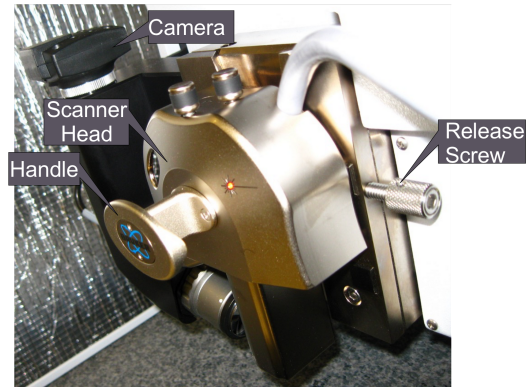

Figure 3. Dim Icon Scanning Head mounted on dovetail rail.
9) Unlock the scanner head by carefully gripping the head by the handle (Figure 3) and loosening the screw on the right side of the head, Figure 3 & 4. One or two turns should be enough. There is no need to turn the screw all the way out. Lift the head out of the dovetail rail. The scanner head should always be mounted on the dovetail rail unless you are loading the probe holder. If it is not, contact a GLA.
iii) Do not touch the camera (Figure 3 or 4) it should not be moved.